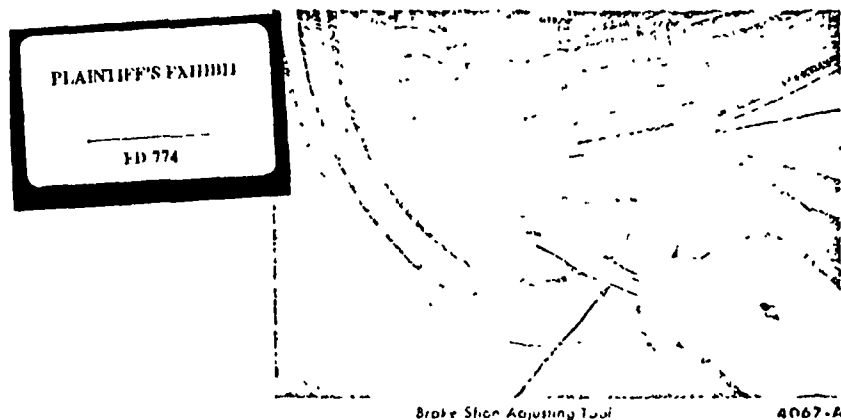

FIG. 1—Brake Shoe Adjustment
2. Remove the cover from the adjusting hole at the bottom of the brake carrier plate and turn the adjusting screw inside the hole to expand the brake shoes until they drag against the brake drum (Fig. 1).